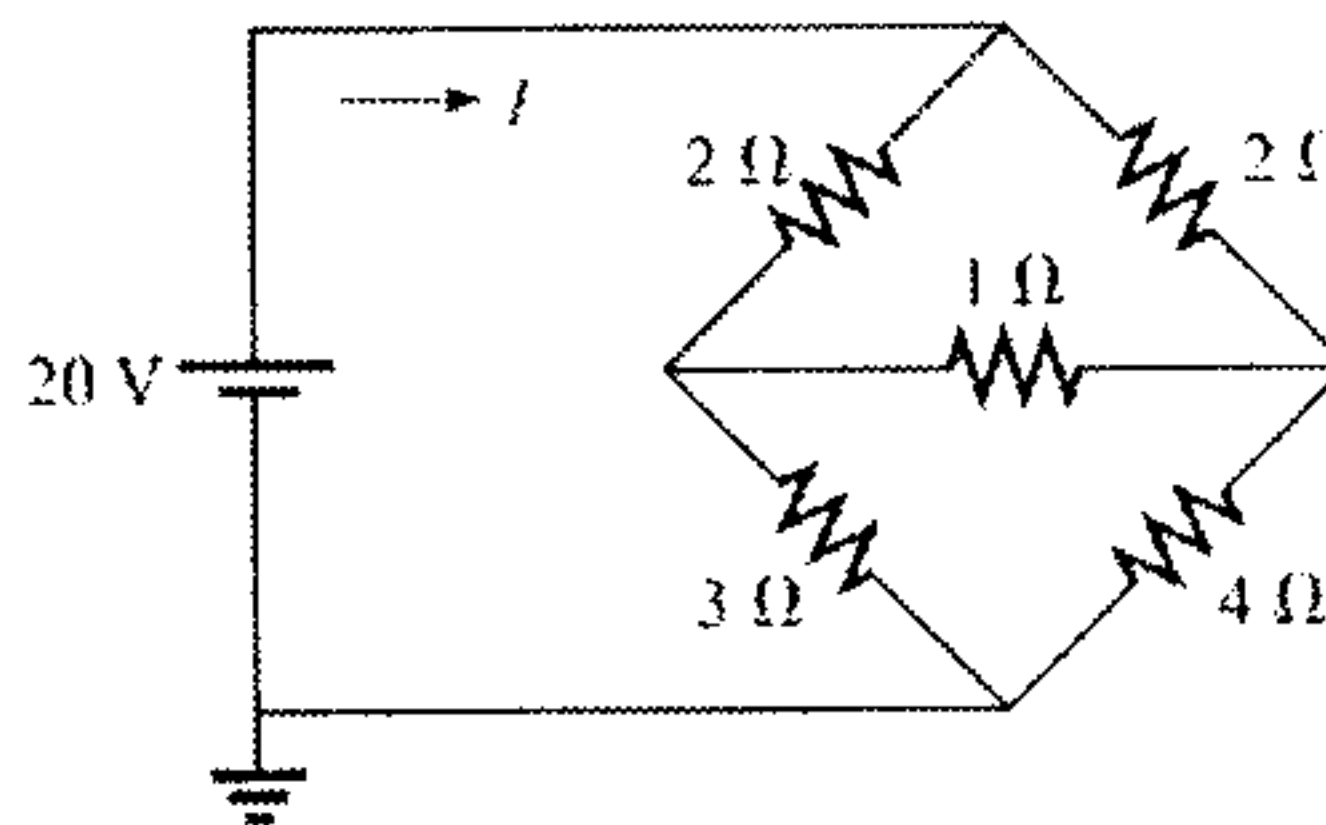

Fig. 2
- c) Find the equivalent Resistance seen by the voltage source using star-Delta (delta-star) conversions for the circuit shown in Fig.2. below. 5 M